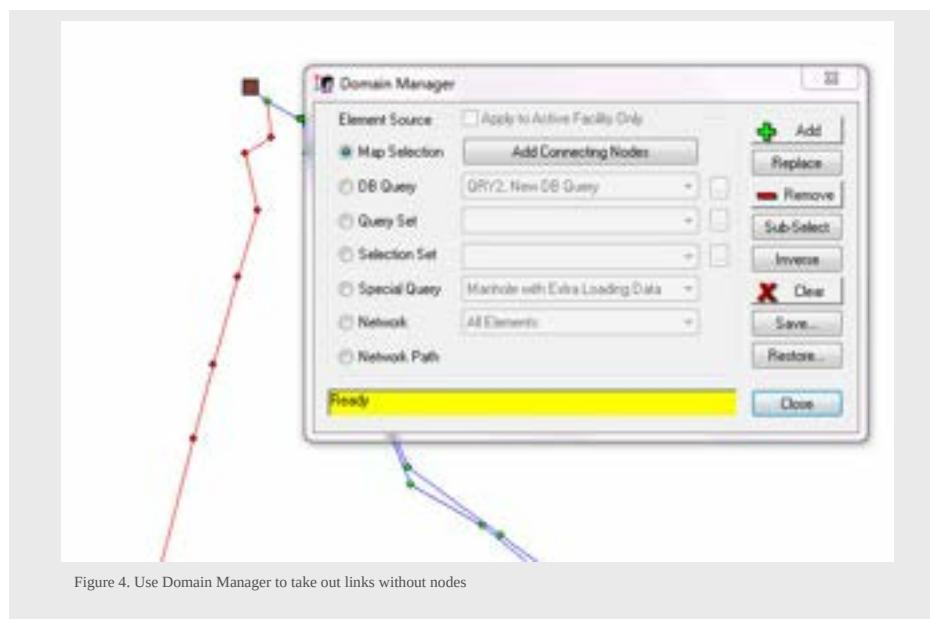

Figure 4. Use Domain Manager to take out links without nodes
Step 2. Once the upstream domain is created use the Domain Manager to add in any extra links without nodes (Figure 4)